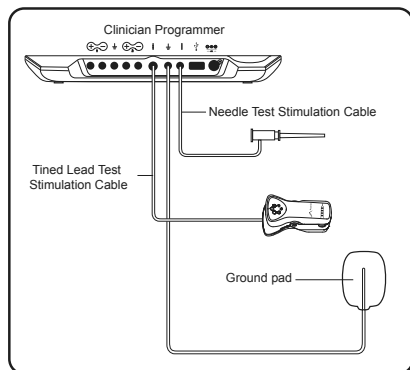

Figure 4. Clinician Programmer cable connections for the lead implant procedure.
- e. Insert the black plug into the CP ground (⏏) next to Needle Test Stimulation Cable (**Figure 4**).
7. Insert the black plug of the needle test stimulation cable into the CP outside the sterile field (**Figure 4**). Keep the clip end of the cable in the sterile field.
9. Insert the grey plug of the tined lead test stimulation cable into the CP outside the sterile field (**Figure 4**). Keep the clip end of the cable in the sterile field.